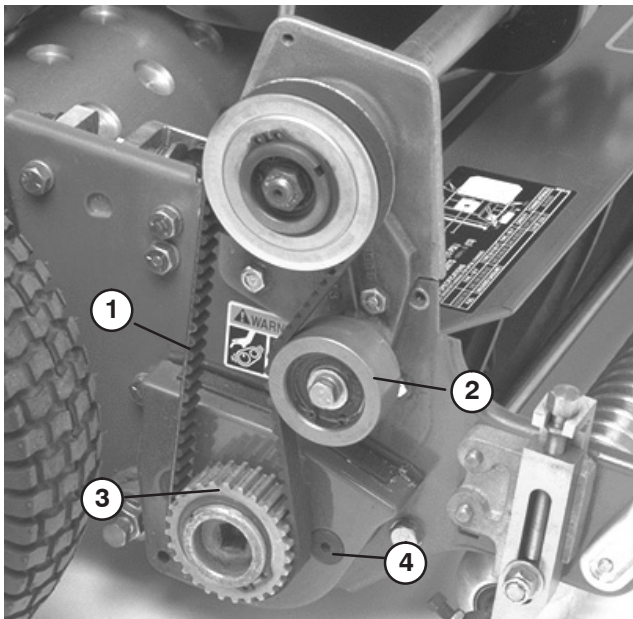

Figure 8
17. Loosen the idler pulley to relieve the belt tension and remove the reel drive belt from the pulleys (Fig. 8).
18. Using a 1/2" drive ratchet and extension, remove the drive pulley from the reel shaft (Fig. 8). Secure the reel from turning with a wood block.
19. Remove the two flat head machine screws and nuts securing the groomer arm cover to the bearing housing and side plate (Fig. 8). Remove the groomer arm cover and retain the fasteners.